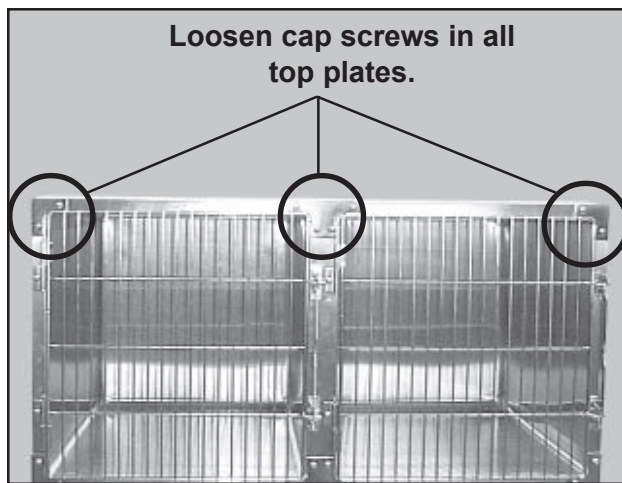

Figure 46. Loosening Top Hardware Cap Screws
2. Loosen all the cap screws on the top corner and tee plates on all the cages on the top tier (Figure 46).